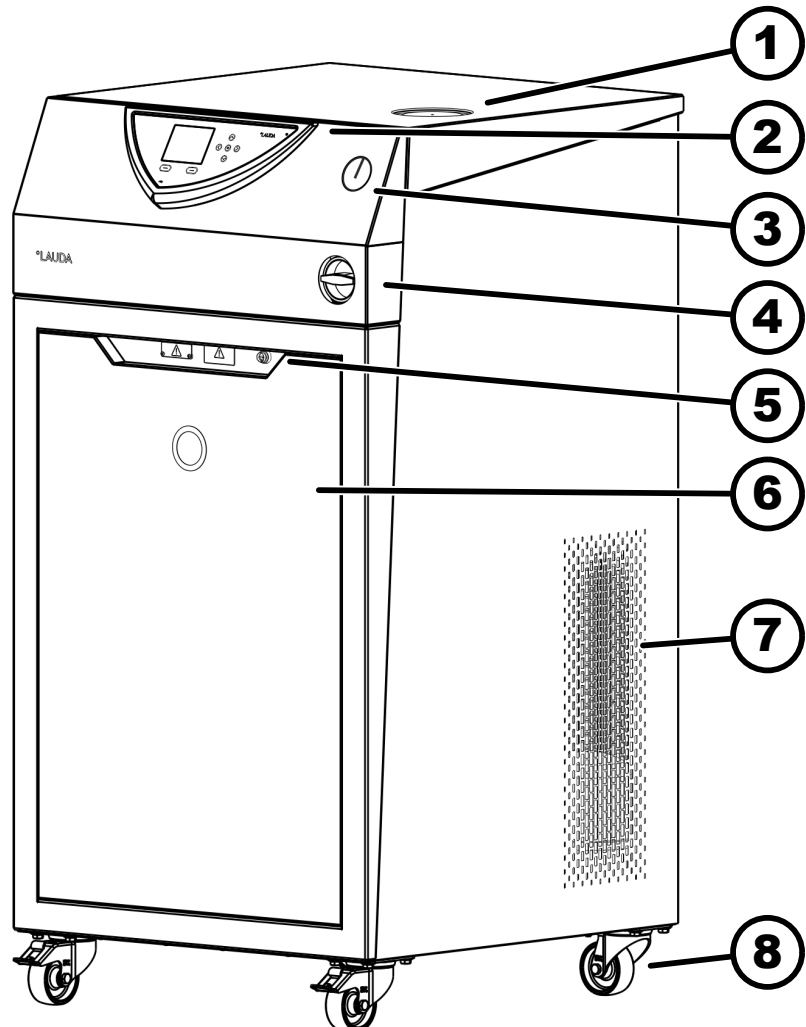

Fig. 5: Front of VC 10000 W
7. **Fig. 5:** Carefully tip the device slightly to one side ⑧. Remove the foam material ⑨ on which the device was previously resting. Tip the device to the other side, and do the same.
8. **Fig. 5:** The wooden cover now becomes a ramp. The slanted sides of the ramp should face away from the device, towards the ground. The guide rails are visible. Place the ramp ⑩ on the recess on the pallet. Open the castor brakes on the device.